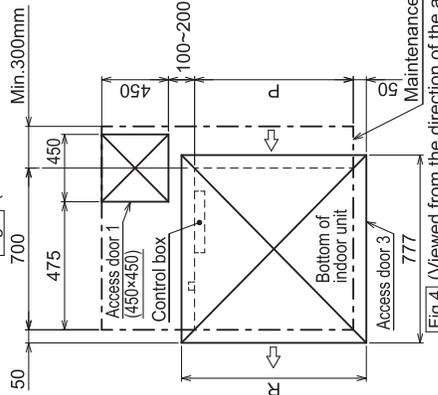

Fig.4 (Viewed from the direction of the arrow B)
- Create access door 1 diagonally below the control box and access door 3 below the unit as shown in Fig.4.